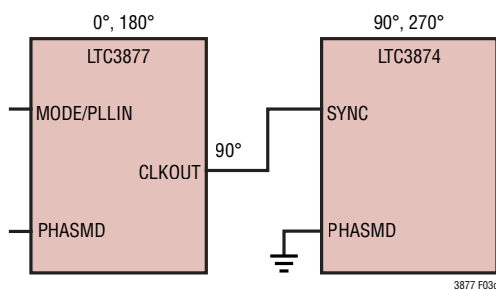

Figure 3d. 4-Phase Operation with LTC3874 as Slave IC
- The LTC3874's switching synchronizes to the falling edge of the external clock. Refer to Table 1 in the LTC3874 data sheet. Tie the LTC3874 SYNC pin to the CLKOUT pin of LTC3877 and bias the PHASMD pins as shown in Figure 3d;